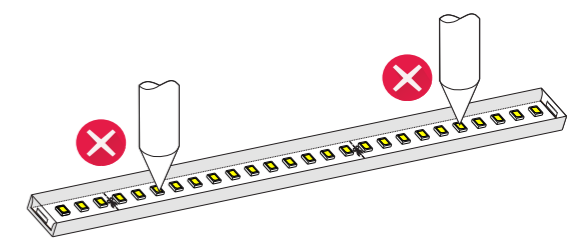

Fig. 2.2
- Do not puncture, shorten, or splice the light (Fig. 2.2), Doing so will result in damaging the internal circuit board.